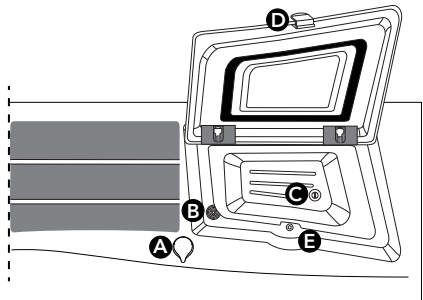
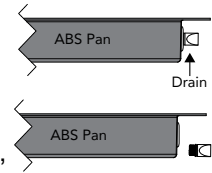

Figure 12.1c
Figure 12.1f
From the Settings Menu (Figure 12.1a) tap  to enter the SunCooler Drain Menu, Figure 12.1b. When water accumulates within the SunCooler bins, draining of the water can be done in one of two ways, internally into the hot tub (Figure 12.1d) or externally out of the hot tub (Figure 12.1f). There are also SunCooler perimeter drains, Figure 12.1c. When water accumulates, in the perimeter, draining is continuous any time pump 1 is running.
4. Locate the air control that works with the bin drain, Figure 12.1c, and close it by turning it counterclockwise.
2. Locate the drain plug on the ABS pan of the hot tub, Figure 12.1f.
3. Turn the thumb screw counterclockwise to remove, Figure 12.1f. Place the screw in a safe location to prevent from losing it.